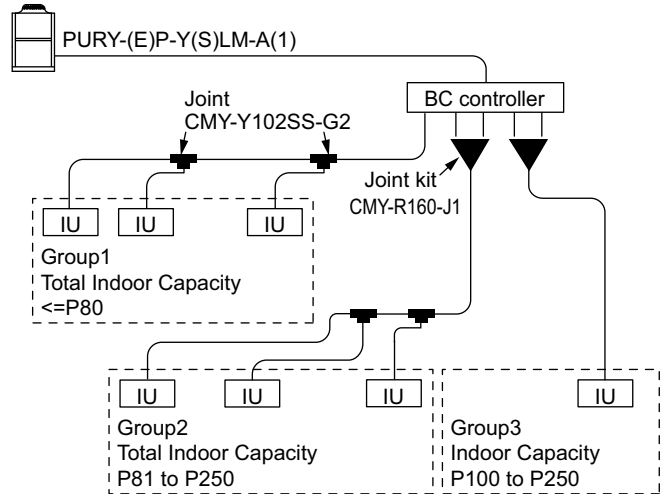

Fig.1. CMY-R160-J1 applying scheme
Joint kit "CMY-R160-J1" for BC controller is used to combine 2 ports of the BC controller at a PURY-(E)P-Y(S)LM-A(1) system so as to enable down-stream Indoor capacity above P80 as shown in Fig. 1.
The maximum down-stream Indoor capacity for 1 port of BC controller is P80. When the down-stream Indoor capacity is above P80, Joint kit CMY-R160-J1 is needed to combined 2 ports of BC controller to enlarge the capacity, like Group 2 and 3 in Fig. 1.
When connecting Indoor units to 1 port of BC controller or 2 combined ports of BC controller using CMY-R160-J1 or CMY-Y102SS-G2 is applicable, like Group 1 and 2 in Fig. 1